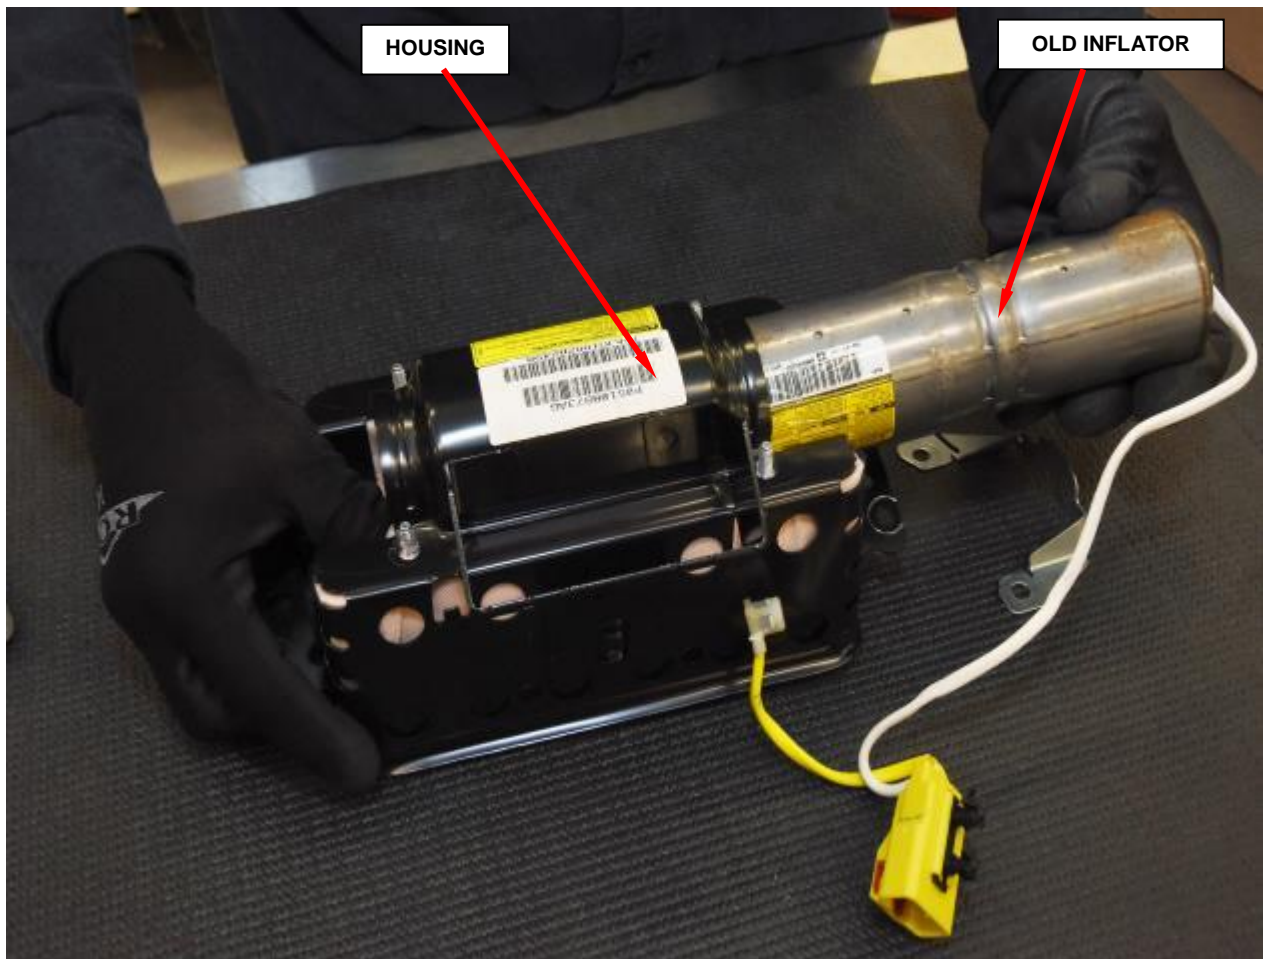

Figure 82 – Passenger Airbag Inflator Removal
- g. Slide the inflator out of the housing (Figure 82).